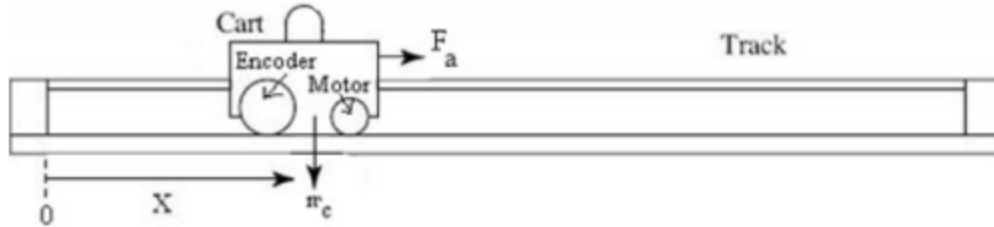

Figure 5: Free body diagram of the cart (ignoring friction)
Figure 5 shows the cart's free body diagram. For simplicity, we will ignore the effects of friction. In the diagram, F_a is the input force exerted on the cart by the voltage applied to the
Using Figure 5 and basic Newtonian dynamics you can derive the equations governing the system
Derive the following equation of motion for the cart system shown in Figure 5:
1. Using the free body diagram in Figure 5, apply Newton's second law to the cart.